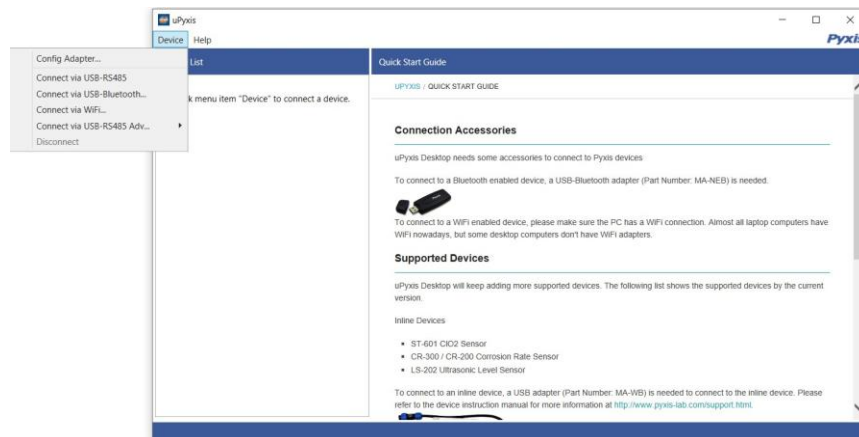

Figure 12.
3. On uPyxis® Desktop App, click Device → **Connect via USB-Bluetooth** or **Connect via USB-RS485** (Figure 12).
4. If the connection is successful, the ST-600 Series sensor and its Serial Number (SN) will be displayed in the left pane of the uPyxis® window.